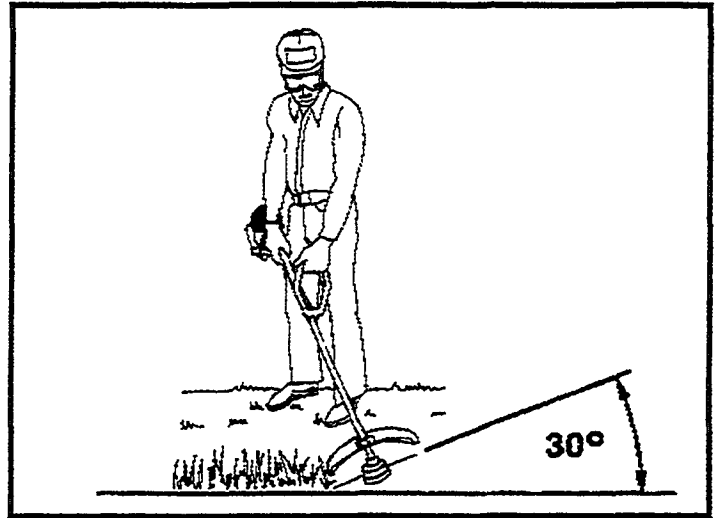

Figure 15
- Hold unit so the rotary head is at an approximately 30° angle to the ground (Figure 15).